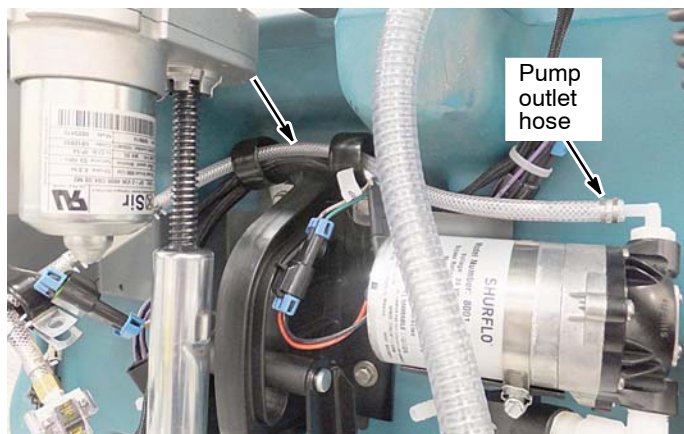

Fig. 22
8. Route the pump outlet hose assembly through the two large clamps and connect to pump as shown (Figure 22).